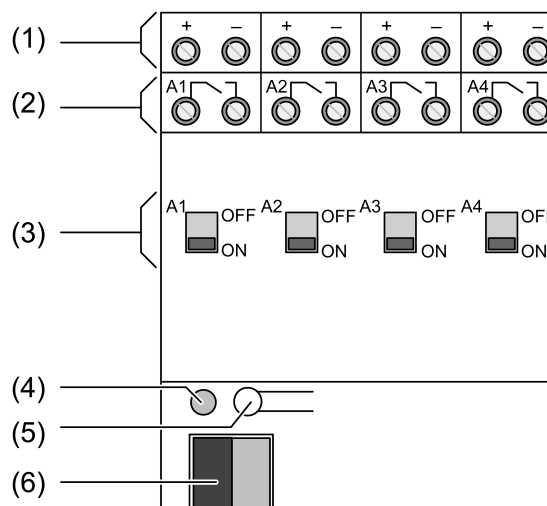

Figure 1
The status of the relay is reflected by the slide switches (3) on the front of the device (Figure 1). At the same time they can be used for manual operation of the relay outputs using a suitable tool.